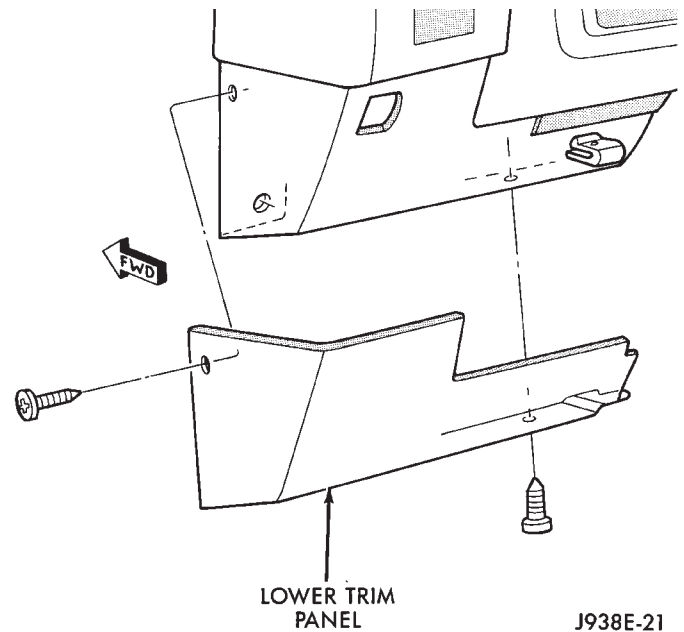

Fig. 4 Lower Trim Panel
- (10) Open glove box and remove 2 screws holding dash pad.
- (11) Remove dash pad pulling up to unsnap end clips.
- (12) With driver's door open remove 1 screw from the side of the lower trim panel (Fig. 4).